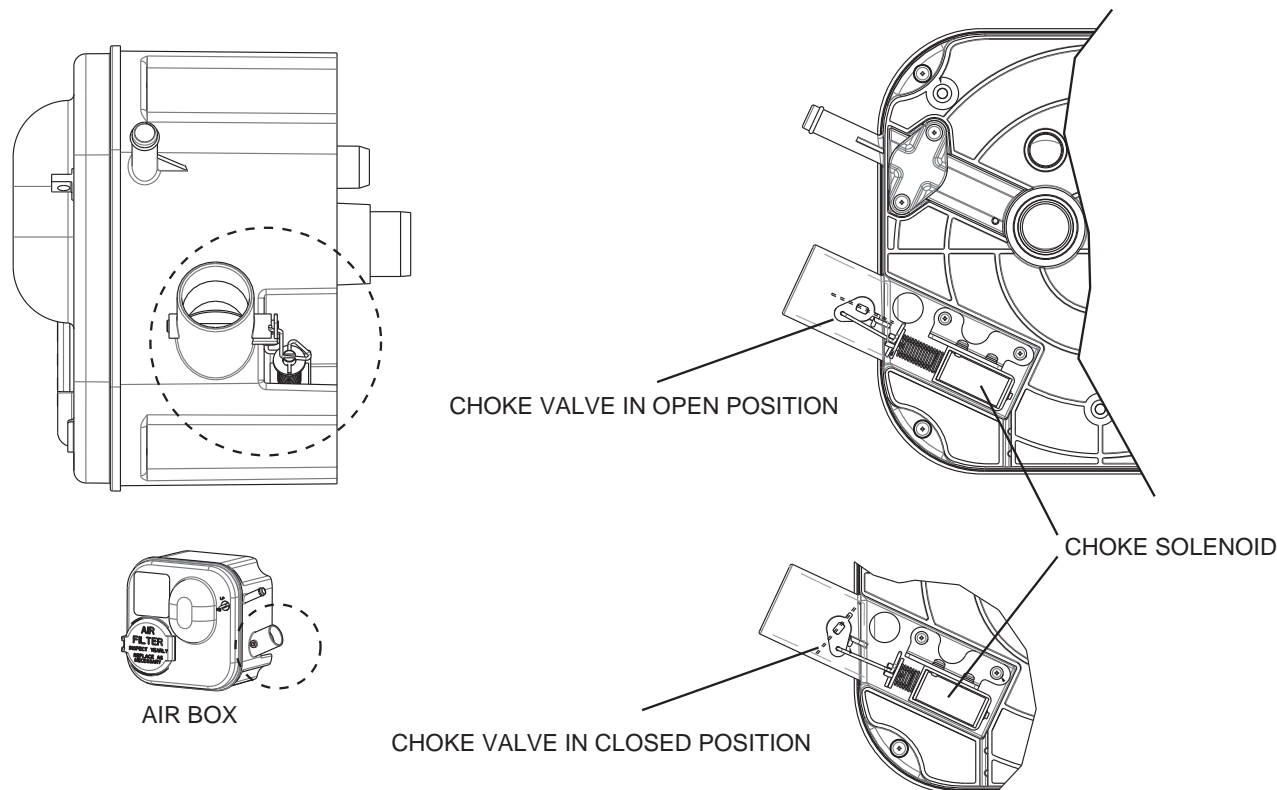

Figure 130. 8kW Choke Solenoid
1. Refer to Figure 130 for location and function of choke solenoid. Turn off the fuel supply to the generator. Set the AUTO-OFF-MANUAL switch to the MANUAL position. While cranking, the choke solenoid should pull the choke plate closed. If the choke solenoid does not pull in, verify that the choke can be manually opened. There should be no binding or interference.